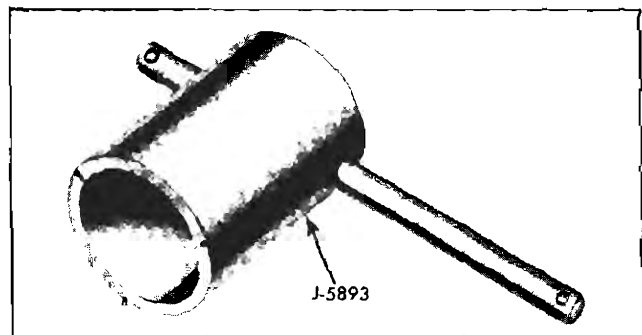

Fig. 11-78 Ignition Switch Ferrule Spanner
2. Remove ignition switch ferrule by unscrewing with special spanner J-5893 (Fig. 11-78).